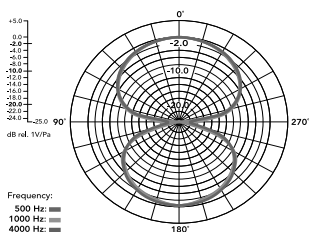

Figure 8
Directional Pattern:	Three position variable - Omni, Cardioid or Figure 8 (see graph)
Omni, Cardioid or Figure 8
- When in the figure 8 position (upper position), the microphone picks up sound from in front and behind, and rejects sound from the other two sides. This pattern is commonly used for interviews (Two people with the microphone between them) or in conjunction with a cardioid microphone to use the MS (mid-side) stereo recording technique.